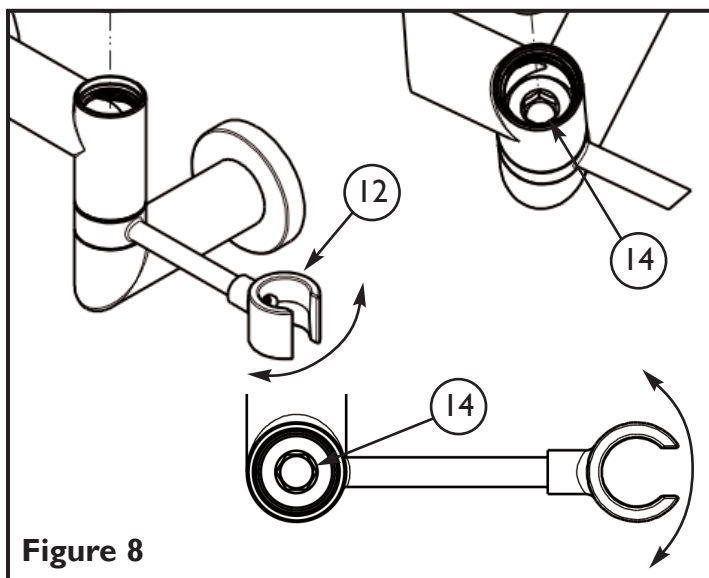

Figure 8
5. Adjust the HOLDER (12) to the desired location and tighten the NUT (14) to lock it in place. See **Figure 8**.